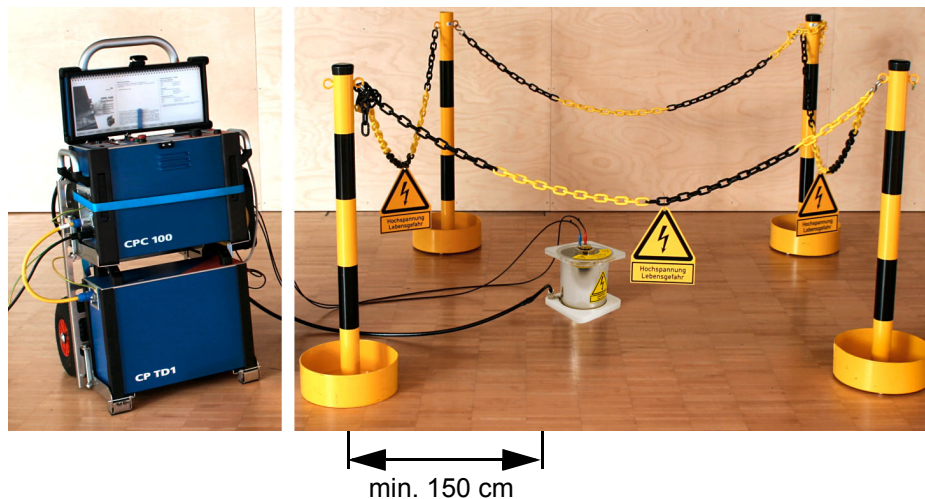
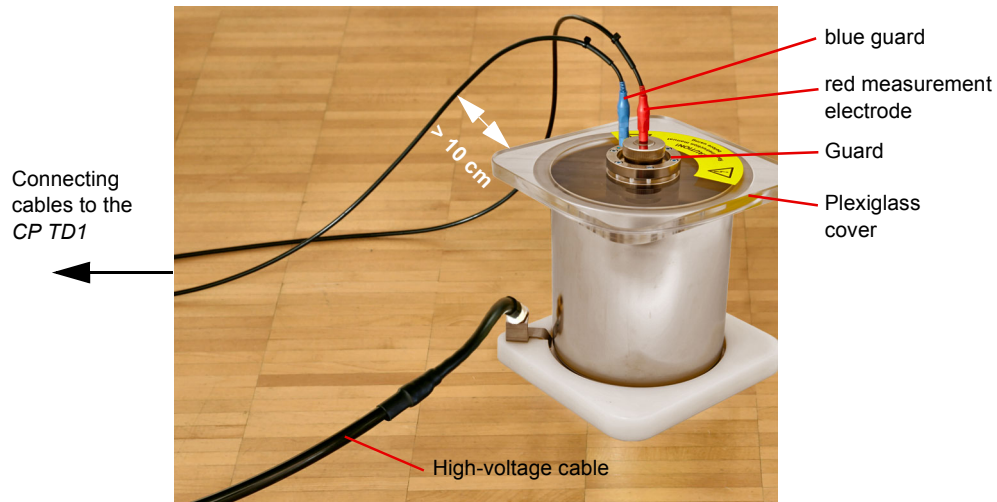

Figure 4-1: Typical test setup
Figure 4-2: Oil test cell CP TC12
- ▶ Make sure that nobody can enter this zone during the test. Use walls or barriers for protection as shown in Figure 4-1: on page 14.
- ▶ Make sure that nobody can enter this zone during the test. Use walls or barriers for protection as shown in Figure 4-1 below. Keep a minimum of 150 cm (59 inches) from the test cell to the barriers in all directions, and make sure that high-voltage warning signs are well visible.
Figure 4-1 shows a typical test setup with the *CP TC12* connected to the *CP TD1*. For a more detailed view, also see Figure 4-2 on the next page.